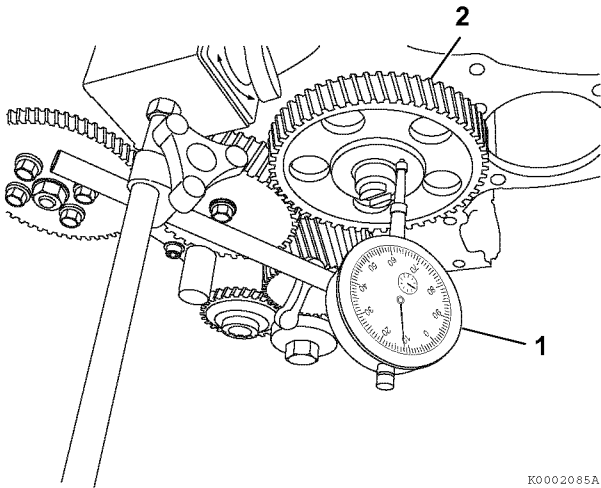

Figure 6-47
- **Method A:** Install a dial indicator (1, **Figure 6-47**) on the cylinder block. Move the camshaft (2, **Figure 6-47**) back and forth to measure the end play. Record the measurement. See *Camshaft* on page 6-6 for the service limit.